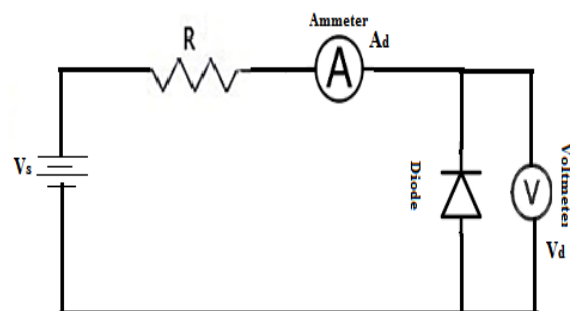

Fig.2. Reverse Bias Circuit
1. Assemble the circuit on your breadboard as shown in Fig.2. Connect to the 0-30 V DC power supply.